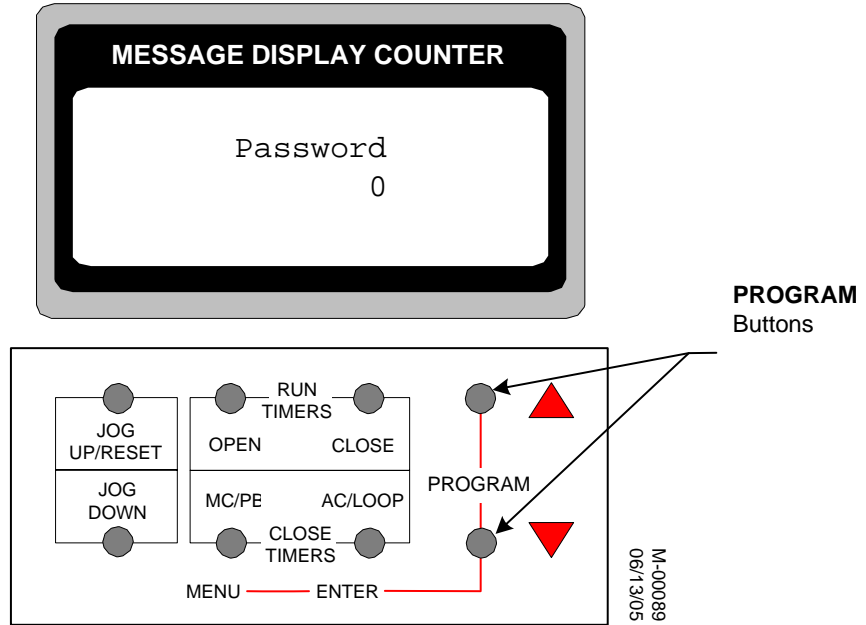

Figure 4-10: DYNALOGIX II Program Mode
2. Press and hold both PROGRAM buttons until display changes to Password. After display changes, release buttons. See Figure 4-10.